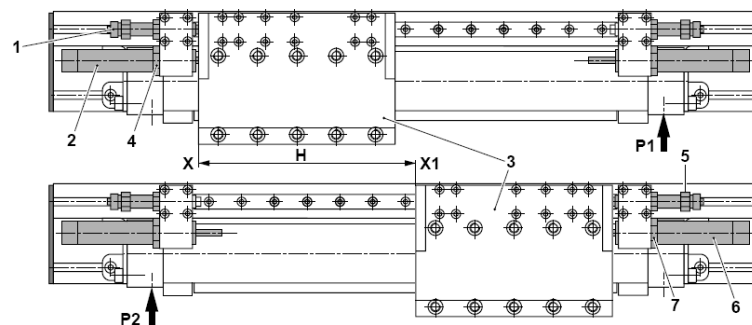

Fig. 32 Adjustment of shock absorber PMP-c
- The slide(Fig. 32, 3) of the module moves to the limit by the stop screw (Fig. 32, 1) in position X.
2. Screw in the shock absorber (Fig. 32, 2) clockwise.
- The damper pin is pressed into the damper until the slide (Fig. 32, 3) starts to move.
3. Now unscrew the shock absorber (Fig. 32, 2) counterclockwise two turns and secure it with the lock nut (Fig. 32, 4).
- The slide (Fig. 32, 3) of the module moves to the limit by the stop screw (Fig. 32, 5) in position X1.
5. Repeat steps 2 and 3 with shock absorber (Fig. 32, 6).
6. Secure shock absorber with lock nut (Fig. 32, 7).